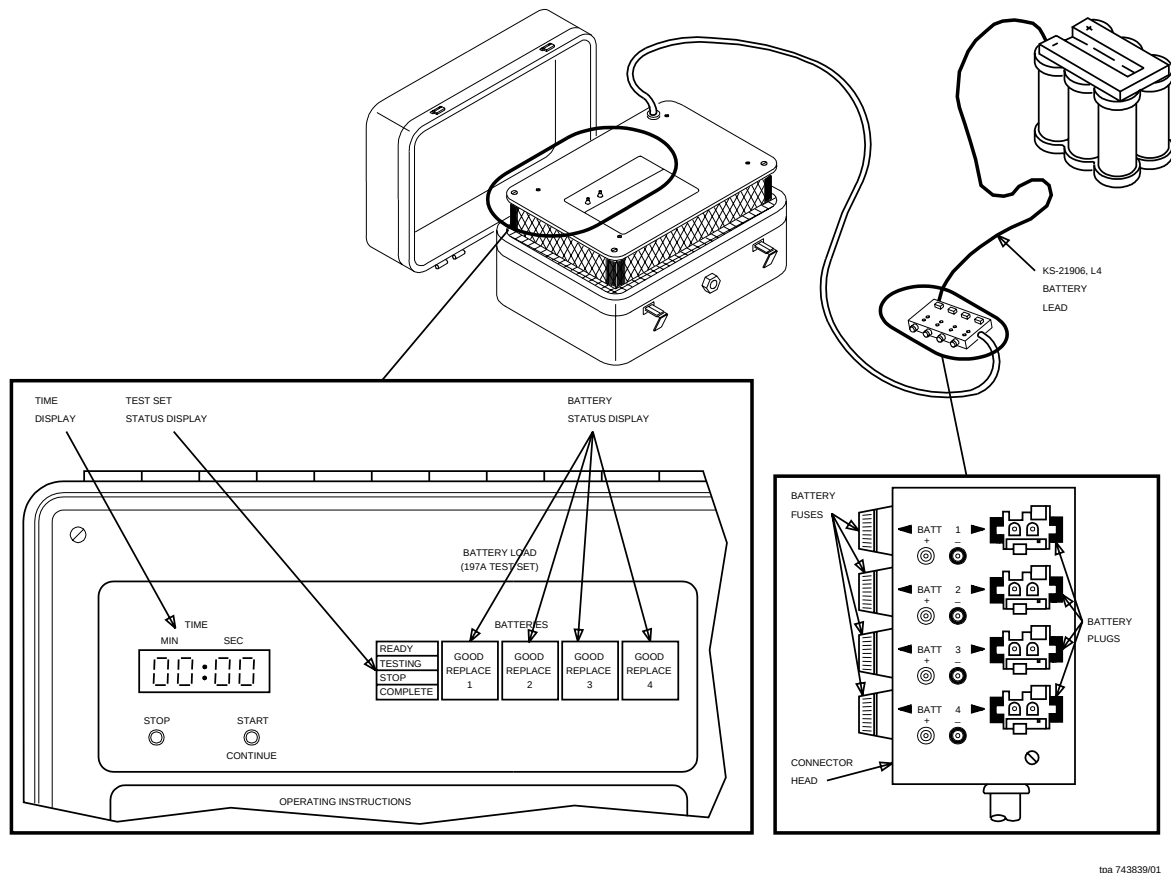

Figure 1. 197A Battery Load Test Set Arrangement
1. Obtain **197A BATTERY LOAD TEST SET**. See Figure 1.